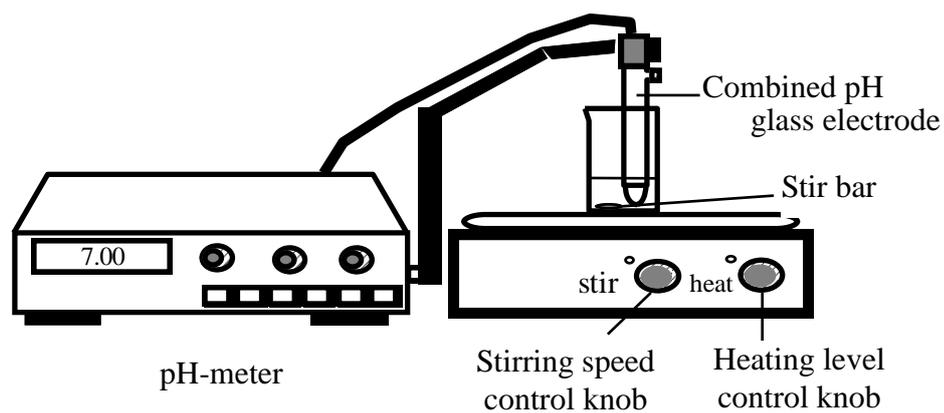

Figure 12-2 Measuring pH values of a solution with a pH-meter
5.	<p>Set up the apparatus according to Fig. 12-2. Measure the initial pH value of solution (c).</p> <p>Note: Stir the solution with a magnetic stirrer set on low speed. Adjust the position of the glass electrode to prevent it from being struck by the magnetic stirring bar. The front end of the electrode must be immersed in the solution as shown.</p>